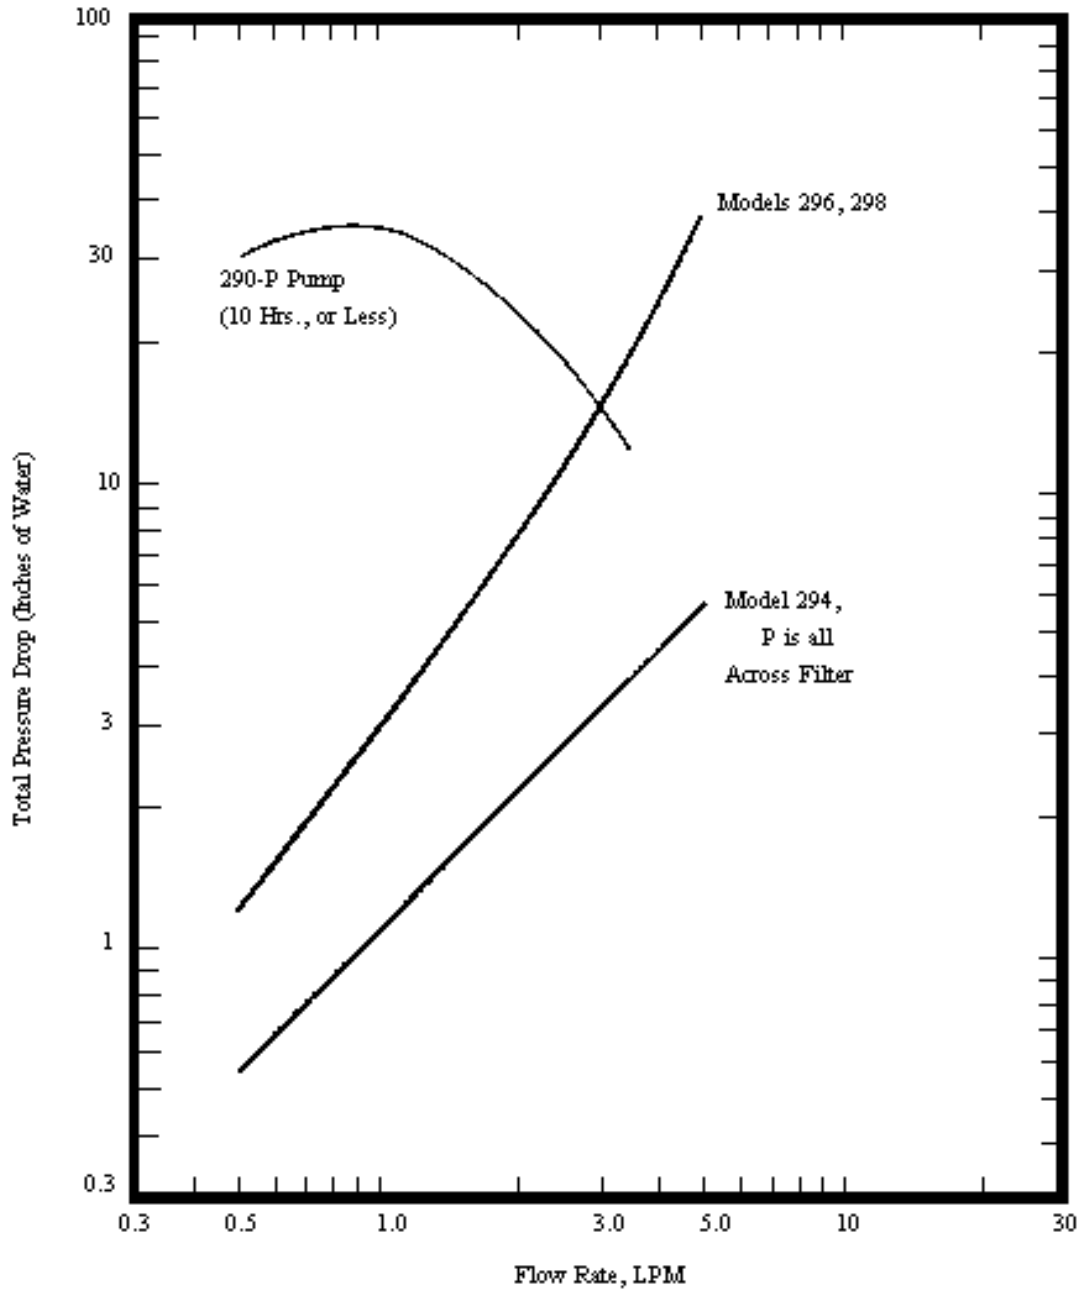

Figure 4: Pressure Drop Across Series 290 with Clean 34 mm 5 micron PVC Back-up Filter
Figure 4 gives the pressure drop of the 294, 296, and 298 versus flow rate, with a clean Model F-290-P5 five micron PVC back-up filter. The pump selected should have a vacuum capability at least 1.5 to 2 times that shown in Figure 4 at the selected flow rate.
1. From Figure 5, select the sampling flow rate based on the particle cut-points desired and the vacuum capability of the sampling pump (See Figure 4).